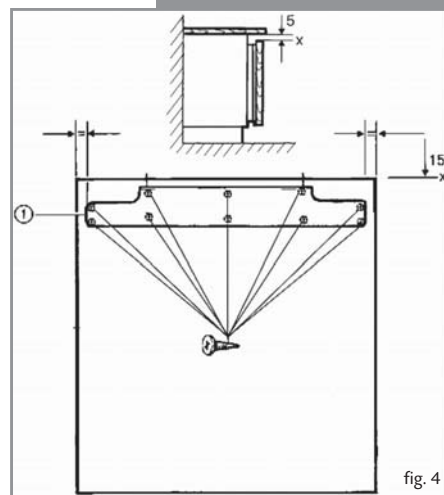
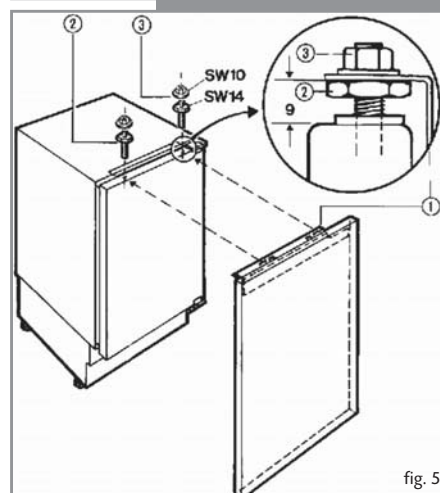

fig. 4
fig. 5
- Screw mounting bracket (1) onto decor door using the screws supplied (as show in figure 4).
- Ensure there is a 5mm clearance between the underside of the worktop and upper edge (X) of the decor panel.
- Screw the four adjusting pins (2) fully into the appliance door.
- Position the decor door on the appliance door, introduce the locating pins at top into the slots in the mounting plate and open out according to detail in figure 5 (about 9mm).